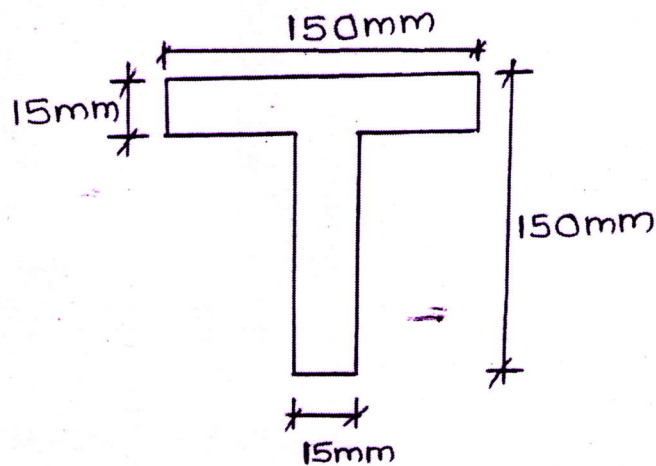

Fig. 7
- b) Determine the rotation at the free end of a cantilever curved beam of quarter circle radius R subjected to a concentrated load P at its free end. (8)
- 8 a) Determine the shape factor of the T section shown in Fig. 7 (8)